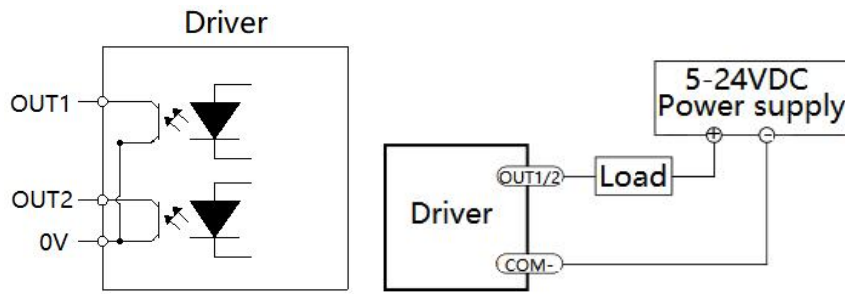

Figure 2-5 Output port single-ended input
A. The schematic diagram of the single-ended input interface of the output port is shown in Figure 2-5 below.